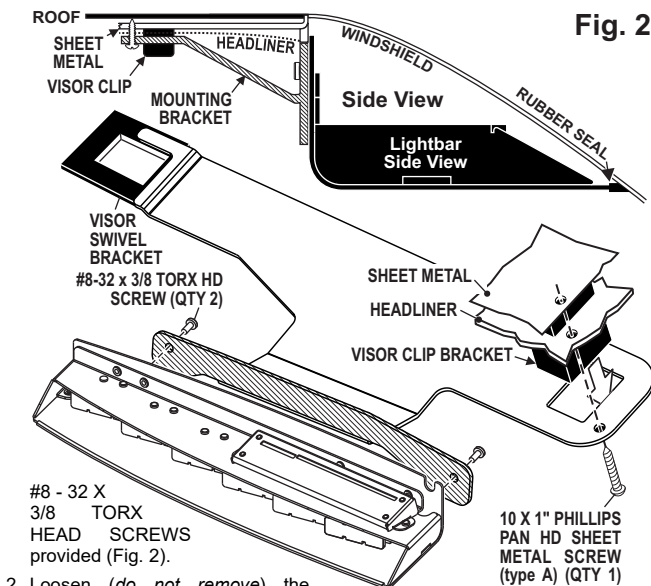

Fig. 2
3. Slide the outside end of the mounting bracket under the visor swivel bracket (Fig. 2). At the same time slip the rectangular hole in the other end of the mounting bracket over the visor clip bracket. With the mounting bracket in position retighten the visor swivel bracket hardware.
6. The rubber seal should be in full contact with the windshield and the rear of the lightbar should be in contact with the roof to prevent light from entering the passenger compartment. When this has been achieved, tighten all mounting hardware firmly to maintain contact (Fig. 2).